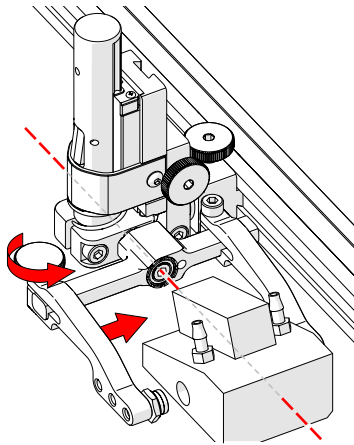

Fig. 93 - Adjust outer arm
5. Loosen the probe holder arm adjustment knob (Fig. 93) and slide the probe holder arm along the yoke pinching the wedge in place.